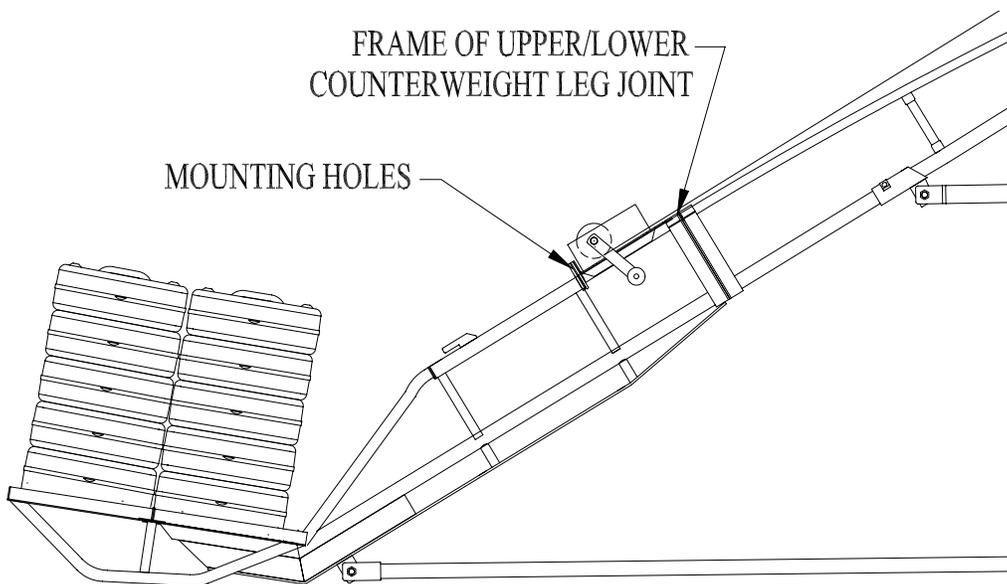

Figure 3-6.
- b. If using the HS2000 hoist, locate the winch on the lower counterweight leg by sliding the front lip of the winch mounting plate under the frame of upper/lower counterweight leg joint. Align the mounting holes and secure with the provided hardware. See Figure 3-6.